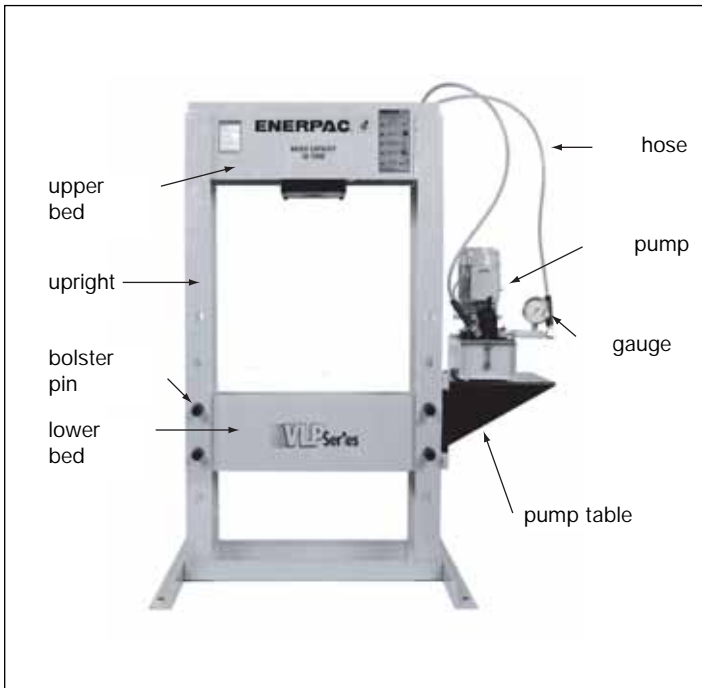

Figure 1, VLP Press Assembly
TABLE 1 - (SEE FIGURE 1)
3.0 INSTALLATION (Refer to Figure 1)